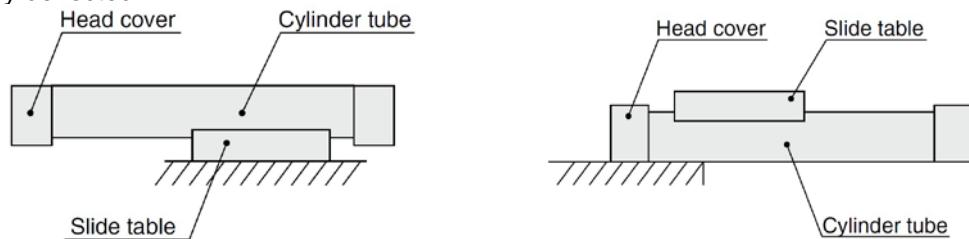

Fig. 4: Product mounting with the slide table fixed
- Do not mount the product with the slide table fixed as shown in Fig. 4.